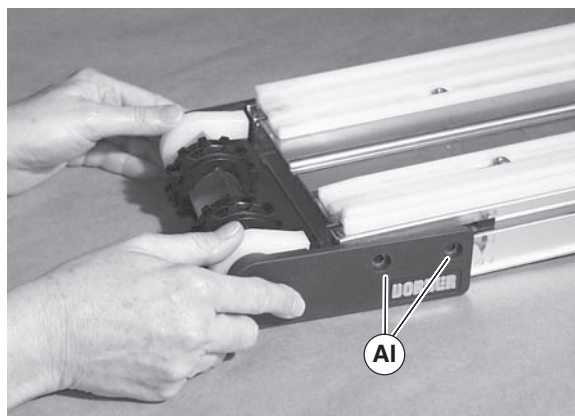

Figure 45
- Slide remaining head plate on to end of spindle and tighten fastening screws (Figure 45, item AI) to 60 in-lb (7 N-M).